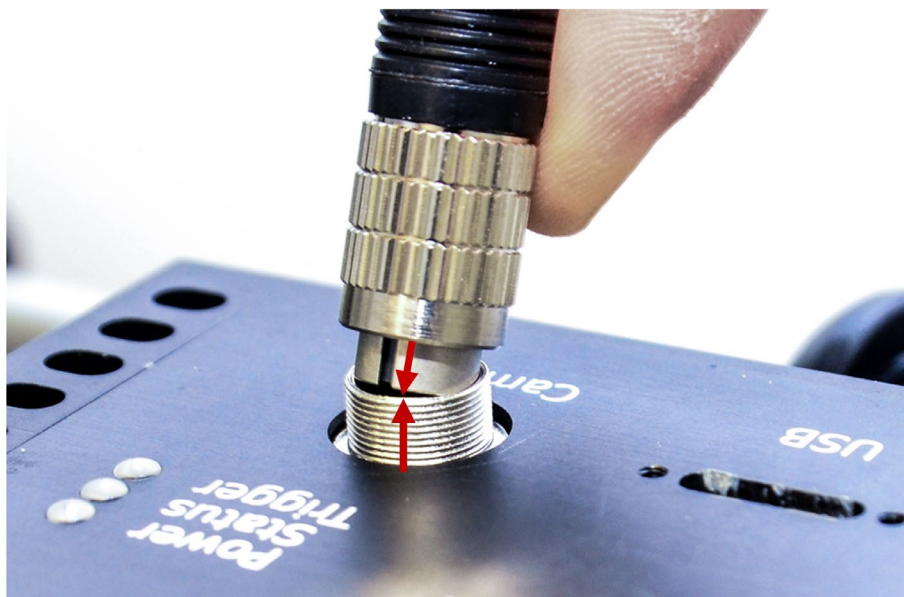

Figure 43 Align the notch on the cable connector to the notch in the camera connector (Step 7.1b)
- b. Align the notch in the connector of the cable to the notch in the connector of the camera (as shown in Figure 43) and push the cable in place.